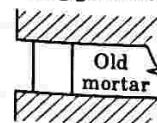

Fig. 5.20.3. Recessed pointing.
i. The face of this pointing is kept vertical and it is pressed inside the wall surface by a suitable tool to a depth of about 5 mm or more as shown in Fig. 5.20.3.